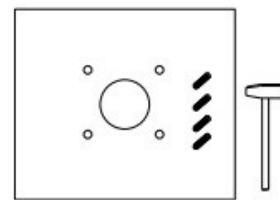

Figure 2-2
2.Fix rubber plugs into holes.(Figure 2-2)